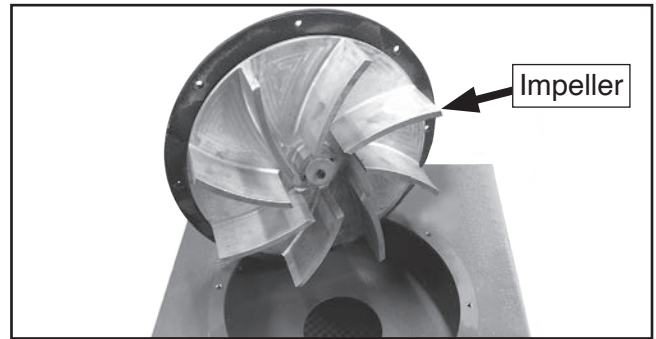

Figure 44. Example of motor/impeller assembly removed for cleaning and inspection.
4. Remove motor/impeller assembly and carefully set on machine housing (see **Figure 44**).